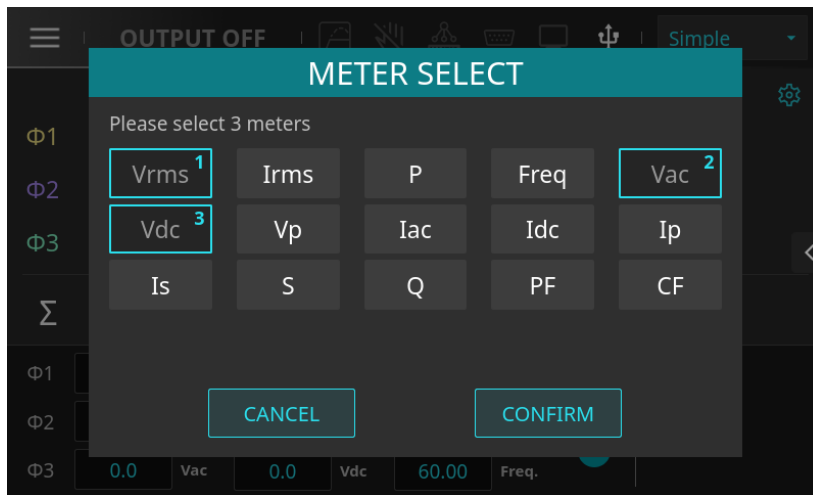

Figure 4-12: Page for selecting measurement parameters “Vac” and “Vdc”
3. Press the desired new parameters “Vac” and “Vdc”, as shown in Figure 4-12.